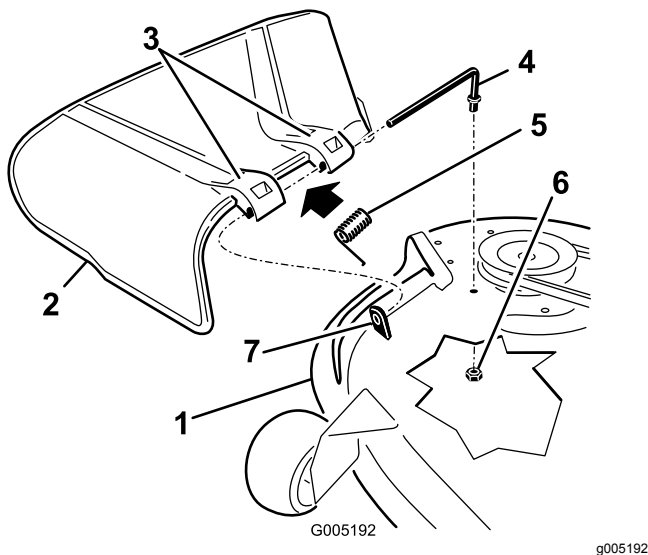

Figure 67
1. Remove the nut (3/8 inch) from the rod under the mower (Figure 67).
2. Slide the rod out of the short standoff, spring, and the grass deflector (Figure 67).
4. Replace the grass deflector (Figure 67).
7. Slide rod through the second grass-deflector bracket (Figure 67).
9. Secure the rear end of the rod into the mower with a nut (3/8 inch) as shown in Figure 67.